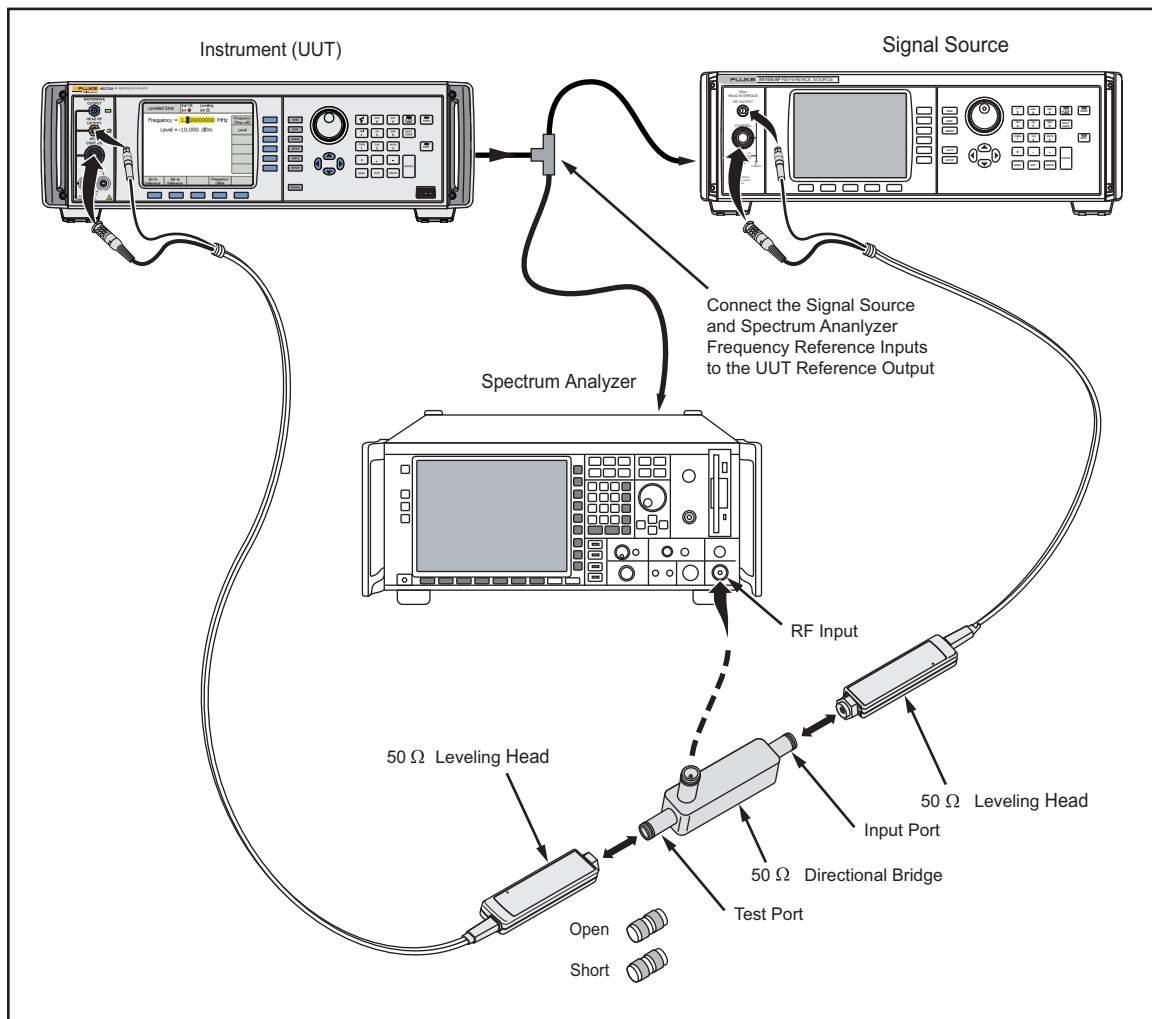

Figure 3-9. Equipment Connections - 50 Ω Leveling Head VSWR Test (96040A and 96270A) hpn226.eps
1. Connect the REF FREQUENCY OUTPUT (rear panel) from the UUT to the Spectrum Analyzer and signal generator external reference inputs using a BNC tee and BNC male – male cable assemblies. Set the Spectrum Analyzer and signal generator for external frequency reference. See Figure 3-9.